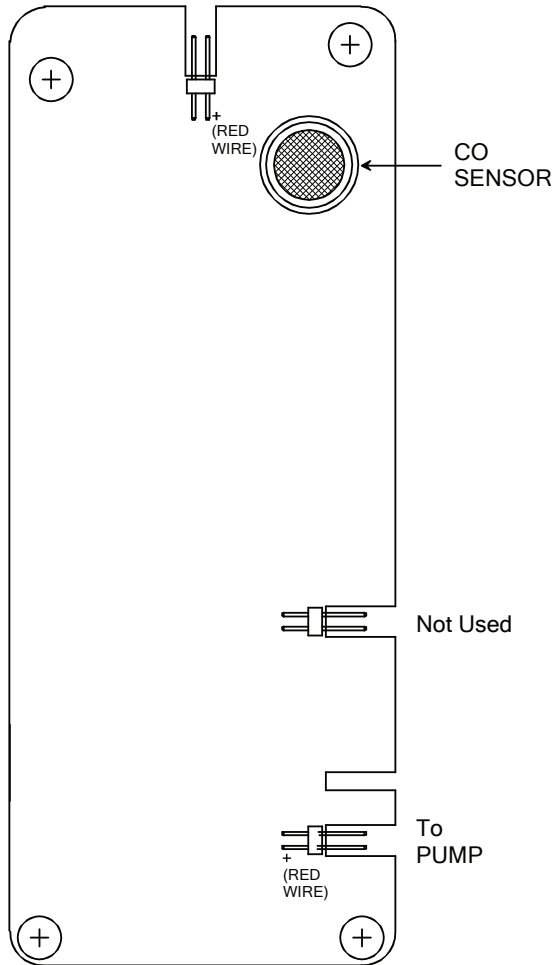

Figure 5-3. CO Sensor Located on Backside of Printed Circuit Board
2. Gently pull CO sensor out of its socket (see Figure 5-3).